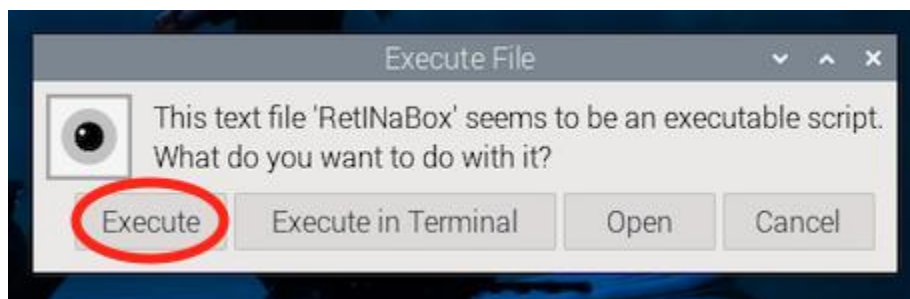

Figure 32. RetINaBox Execute File Message.
- e. Following the successful installation of RetINaBox, you will see a new app on your Desktop. To access the GUI, double click on the new RetINaBox Desktop app and click on Execute (**Fig. 32**). Welcome to the RetINaBox Lab!